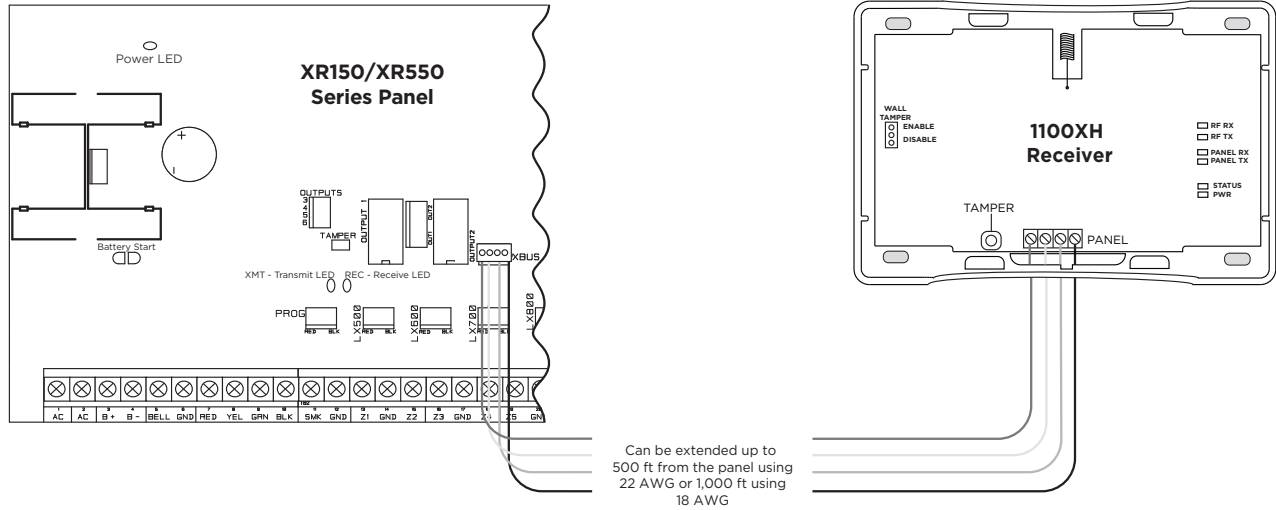

Figure 3: Wiring The 1100XH to the Panel
2. Connect the other end of the wires to the XBUS on the panel. See Figure 3.